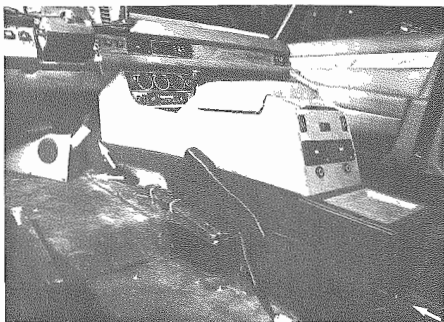

Fig. 10 - Pannelli laterali
- Smontare i pannelli laterali presenti sotto la plancia (**Fig. 10**).
- Disassemble lateral panels that are found under the board (**Fig. 10**).